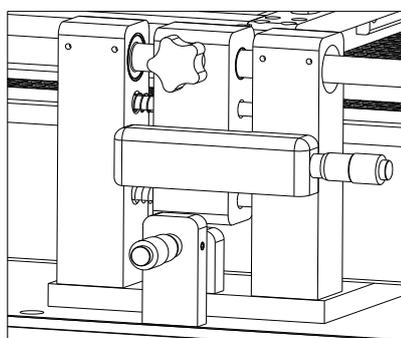

Figure18: PCB clip micro-adjust knob
10、 Pull out the optical alignment system by manual as the Figure (16), in that time will show BGA bottom pad and PCB board with two interlaced images on the CCD monitor.
11、 As Figure (16) you can adjust the focus of optical lence in the arrow position ;
12、 Adjust PCB board X、 Y axis micro-adjust knob(Figure 18) and BGA micro-adjust knob (Figure 17), make two images together completely, and the positioning is finished very well ;
13、 after finished the positioning, turn the optical system back to the origin position, and click Figure (12) positioning completed knob;
1. Back to the boot screen, (Figure18); click “OPERATION”, (Figure18), then it will show operation curve screen. (Figure19)